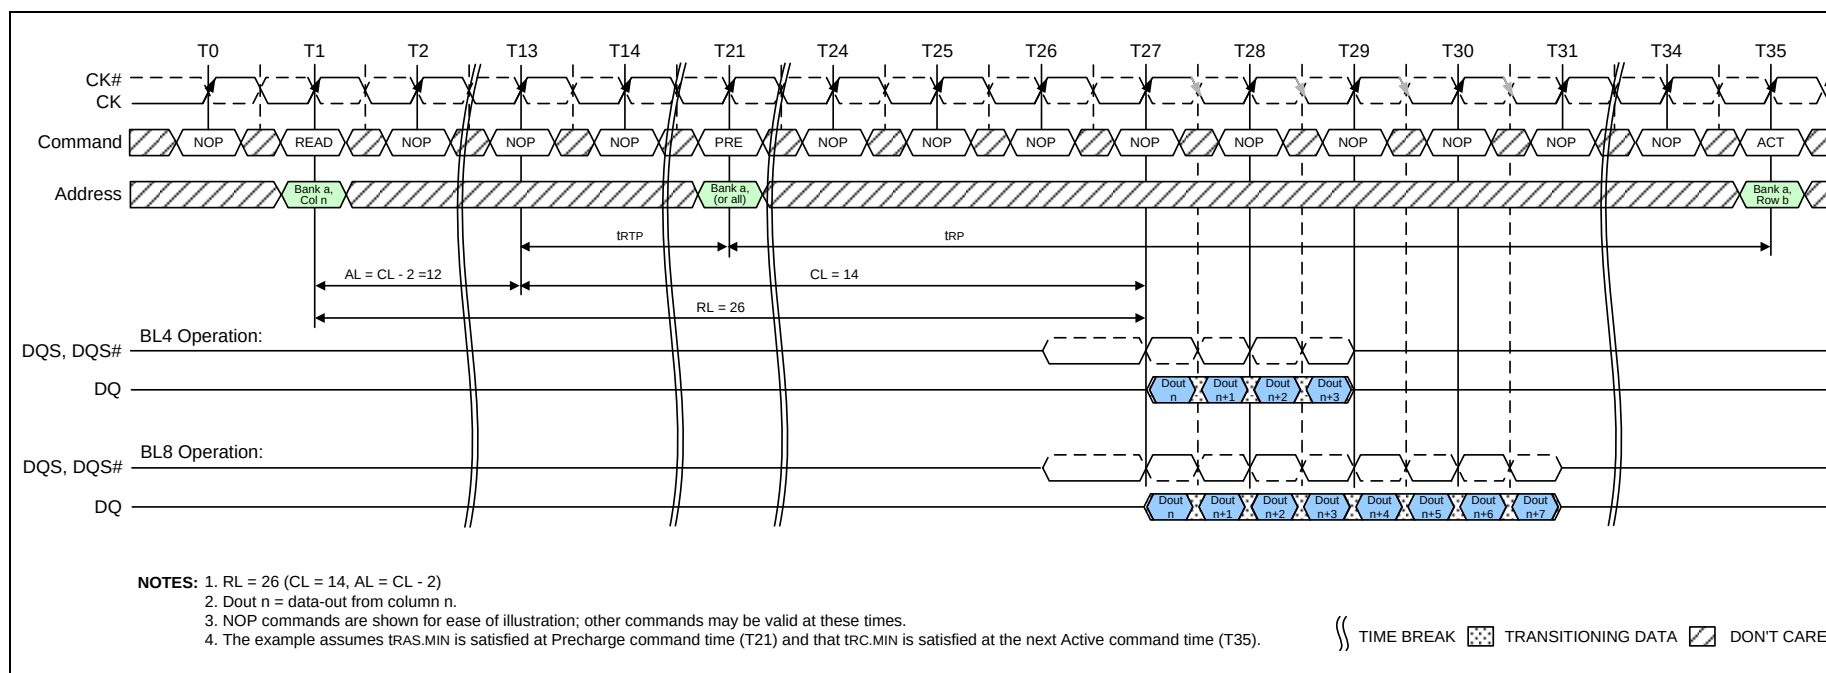

Figure 39 – READ to PRECHARGE ($RL = 26$, $AL = CL - 2$, $CL = 14$, $tRTP = 8$, $trp = 14$)
- Examples of Read commands followed by Precharge are show in Figure 38 and Figure 39.